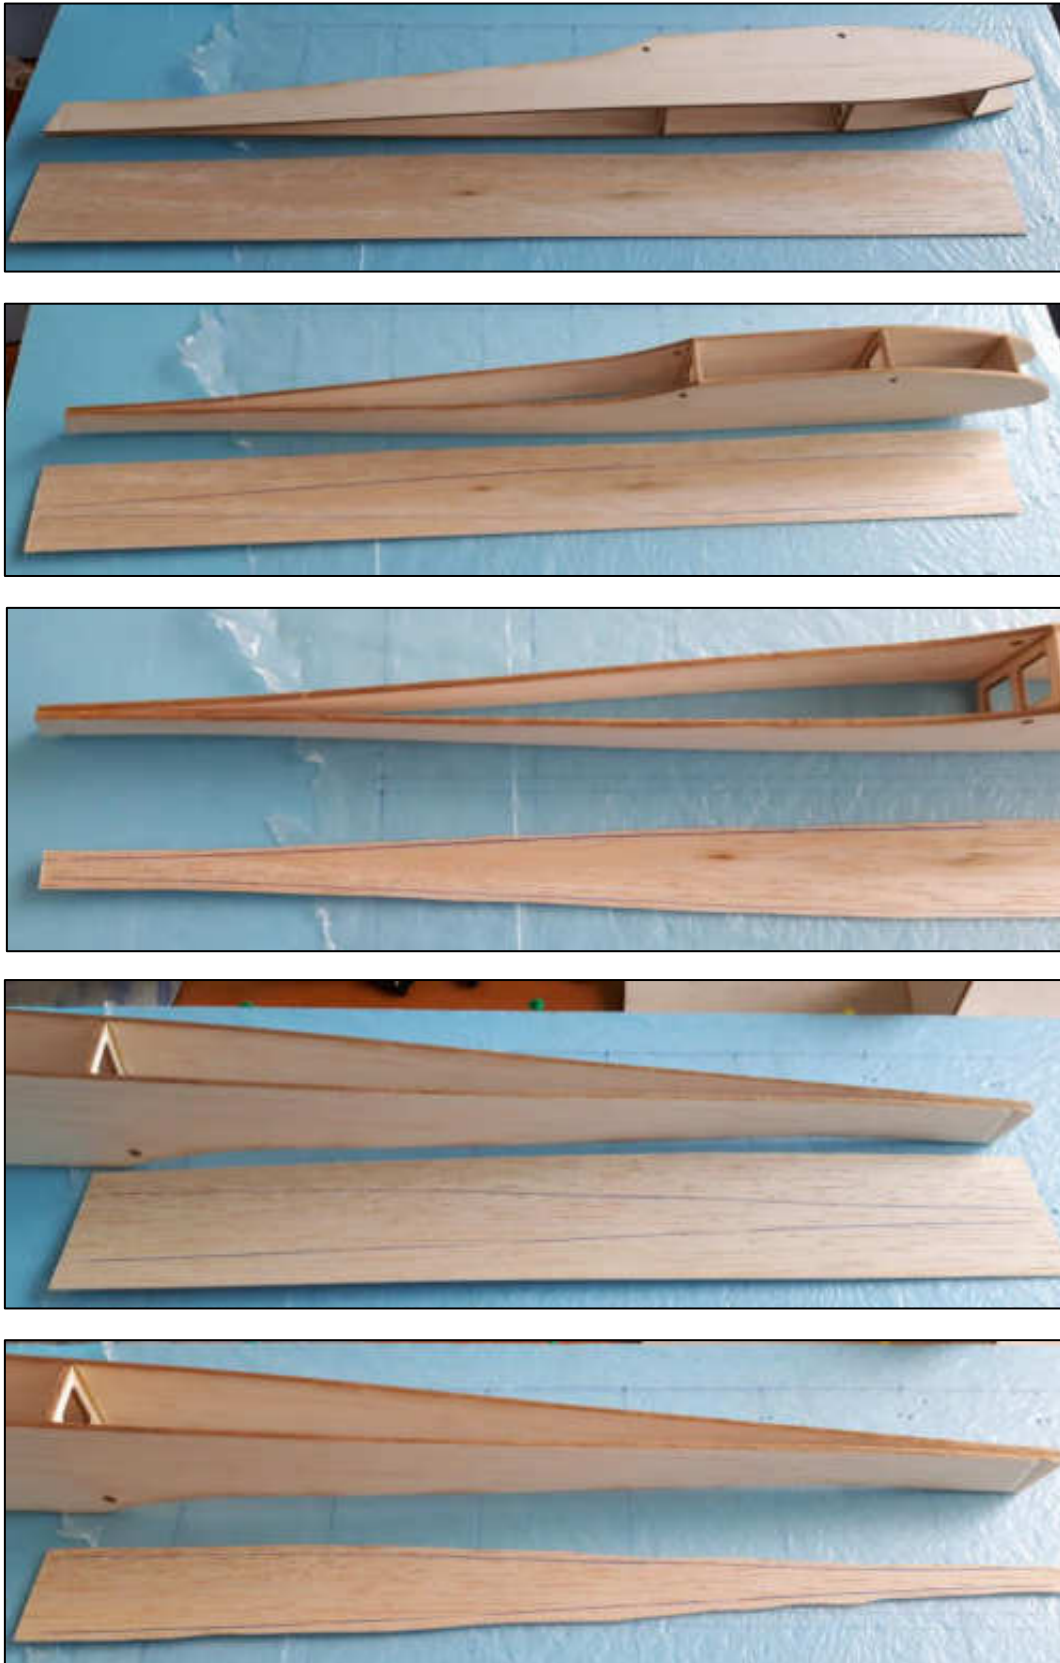

Figure 18: Create the top and bottom fuselage skins.
18. Use two pieces of thin balsa wood to create the top and bottom skin of the fuselage. Use a knife to trim the excess wood, Figure 18.